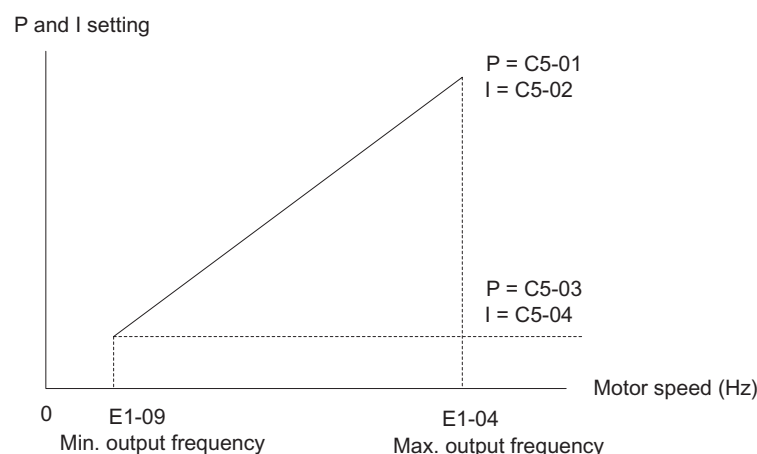

Fig 6.72 Speed Control Gain Integral Time Adjustment for V/f Control with PG
When using V/f control with PG, set the proportional gain (P) and the integral time (I) at E1-09 (minimum output frequency) and E1-04 (maximum output frequency). Fig 6.72 *Speed Control Gain Integral Time Adjustment for V/f Control with PG* shows how the proportional gain and integral time change in linear fashion based on the speed.